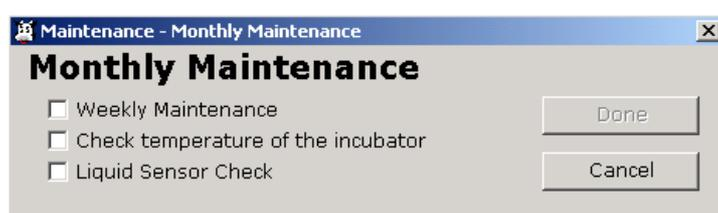

Fig. 10.3-1 : Monthly Maintenance screen
- (1) Select “Monthly” from “Maintenance” in the menu bar (Fig. 10.3-1).
- (2) On the day that monthly maintenance is carried out, if the NSP application software is closed, a warning message will appear. Operator will be then invited to perform the Monthly Maintenance.